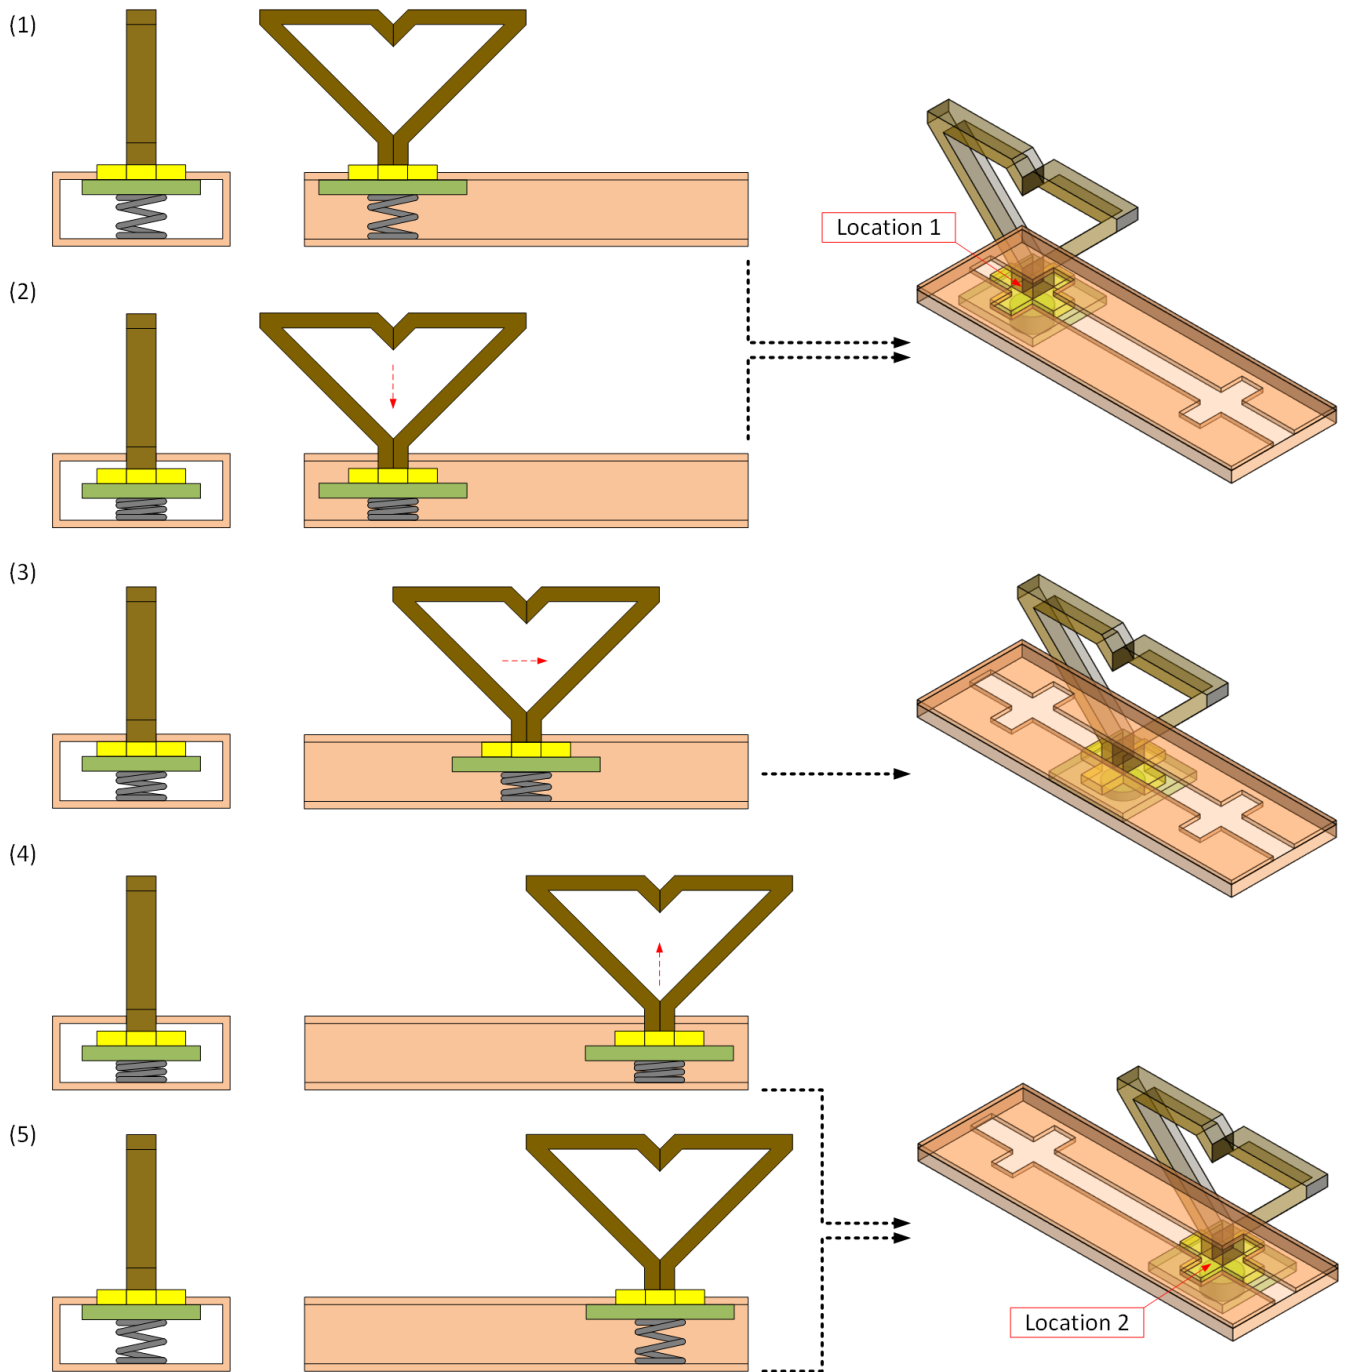

Figure 5 – The detail movement of the cable clip with spring from location 1 to location 2
Please refer to figure 5 about how the cable clip module works. (1) means the initial location. The cable clip with spring is locked at location 1 in the track. Then we press the cable clip with spring to let yellow area of the cable clip under the track cover. So the cable clip with spring is un-lock from location 1. Then we could move forward the cable clip with spring from location 1 to location 2 like (3). When the cable clip with spring is arriving at location 2 like (4), the spring will let the cable clip lock at location 2 like (5).